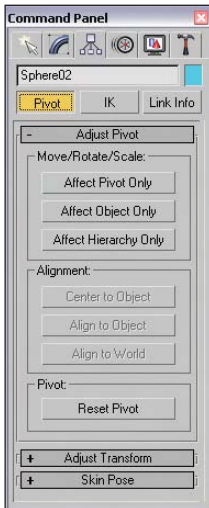

Figure 1-11: The Hierarchy panel offers controls for adjusting pivot points, among other things.
The Hierarchy panel, shown in Figure 1-11, includes three different sets of controls. You access them by using the three buttons located at the top of the panel. These sets are Pivot, Inverse Kinematics (IK), and Link Info. Each of these buttons when selected presents several different rollouts of parameters.